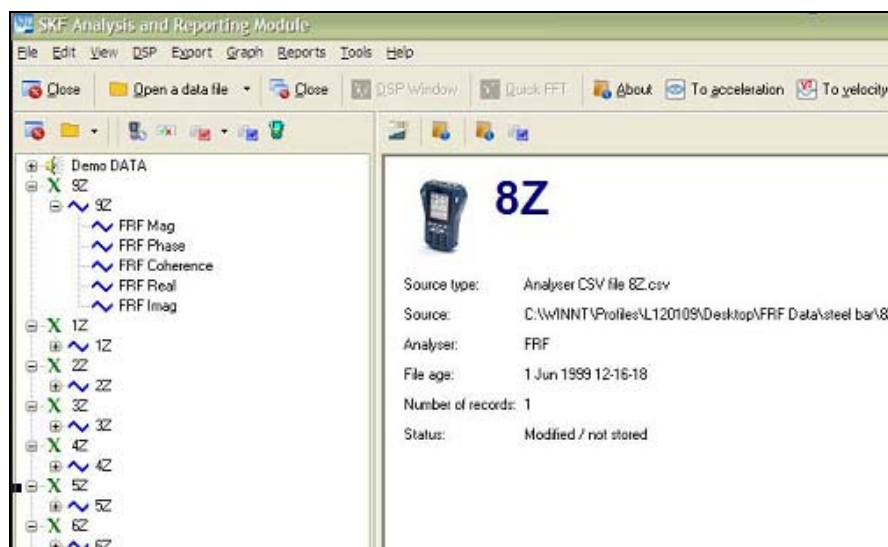

Figure 3. Imported files shown in ARM view
3. All of the selected files will be transferred to the ARM view window. [Figure 3]